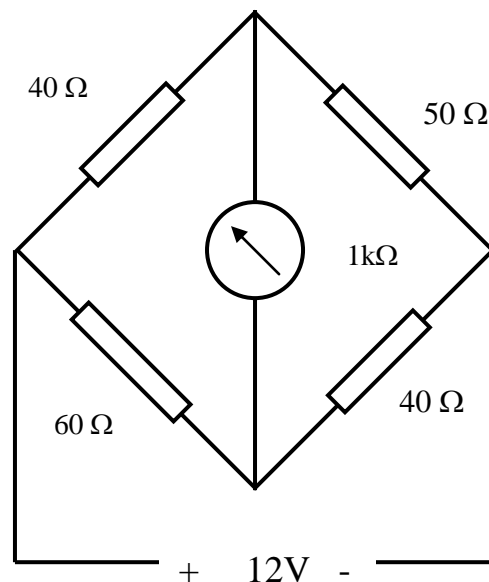

Fig Q1
1. Determine EACH of the following, for the circuit shown in Fig Q1:
- (a) the current in the $1\text{ k}\Omega$ moving coil meter; (8)
- (b) the value of a resistor to be placed in series with the meter to reduce the current in the meter to 1 mA . (8)